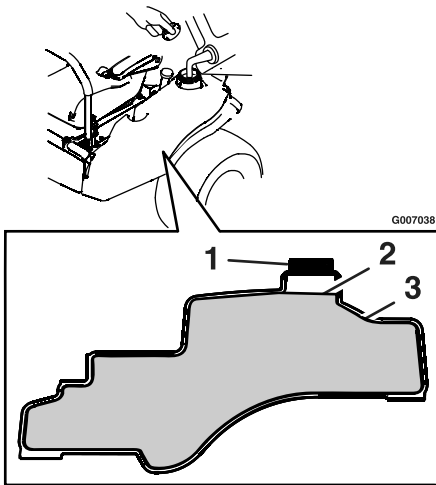

Figure 6
3. Add unleaded regular gasoline until the body of the tank is full but fuel does not fill the neck of the tank (Figure 6). This space in the neck of the tank allows gasoline to expand. Do Not fill the fuel tank completely full.